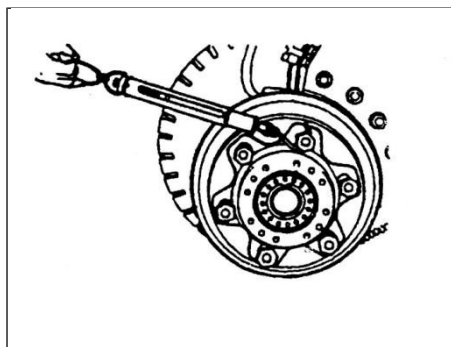

Fig.1-6
- (1) Lubricate on taper roller bearing.
- (2) Tighten roller bearing lock nut in wheel hub until wheel hub can no longer be rotated with one hand.
- (3) From that position, turn back lock nut approx. 60° .
- (4) Turn back wheel hub two or three rotations so that bearing settles down.
- (5) Again tighten lock nut until it can no longer be rotated with one hand; then turn back approx. 60° .
- (6) Install snap ring and settles down felt ring, install lock washer so as to set its hole in the pin of snap ring. Screw lock nut.
- (7) Turn wheel hub back and forth two or three rotations to see if rotation starting torque is within specifications. Rotation starting force: $10 \sim 29\text{N}$ (refer to Fig.1-6) .